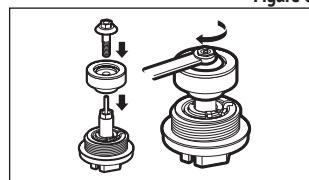

Figure 6f
7. Install the 1 in. seat washer assembly as shown. Insert the seat washer screw into the bottom of the actuator stem and tighten turning clockwise (see Fig. 6f).